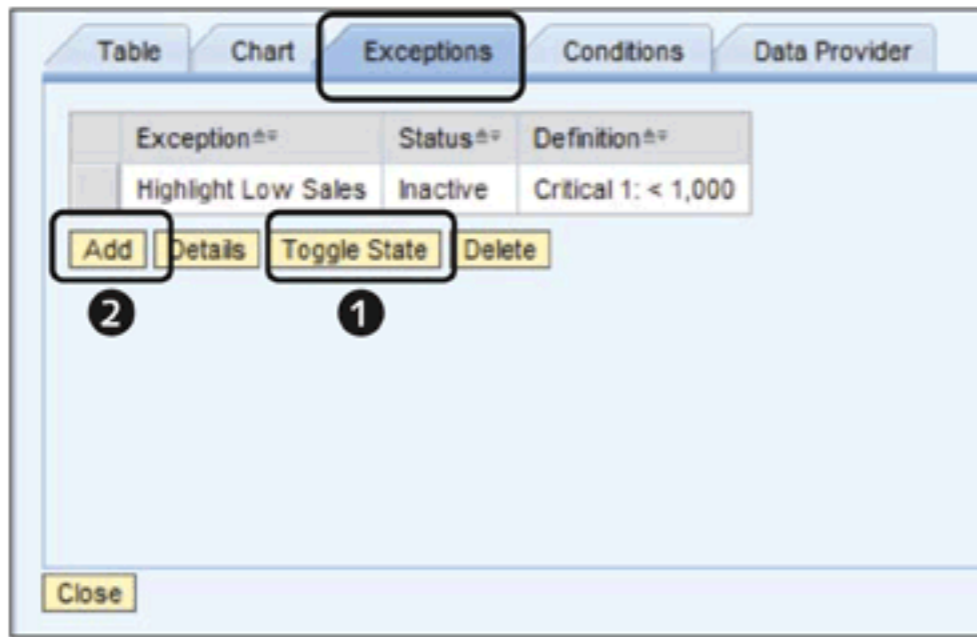

Figure 10.58 Analysis Settings: Exceptions
This tab page shows the list of all exceptions defined on this data provider (Figure 10.58). You can toggle the state of the selected exception (active/inactive) using the TOGGLE STATE button (1). You can also define new exceptions on the data provider using the ADD button (2).